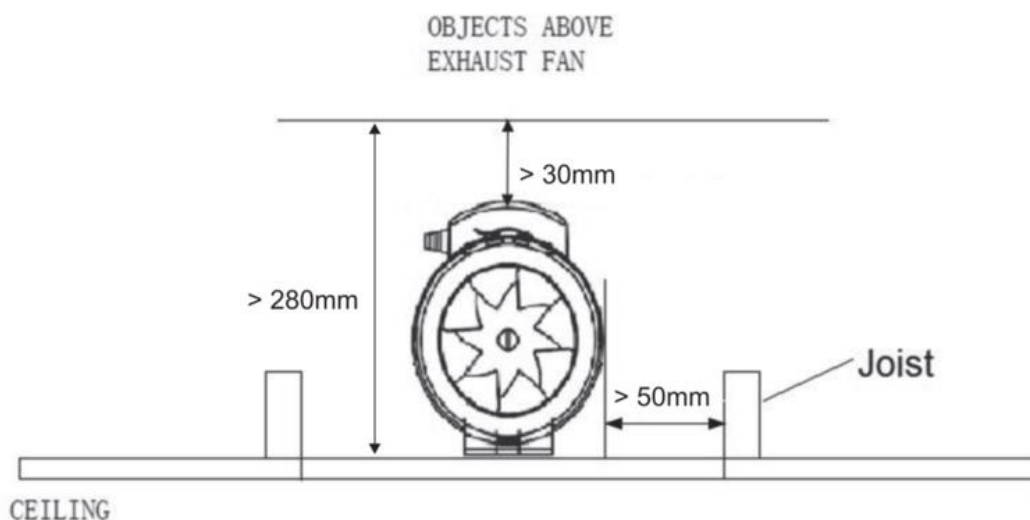

Fig. 11 Clearance diagram
- Ensure all the clearance value to the structural building element are maintained according to the clearance diagram in Fig.7 & Fig.11.